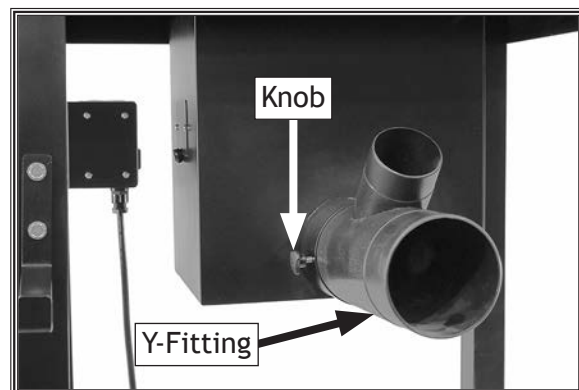

Figure 7. Y-fitting attached to dust port.
3. Install Y-fitting (see **Figure 7**) on dust port and secure with (1) 1/4"-20 x 1/2" knob.